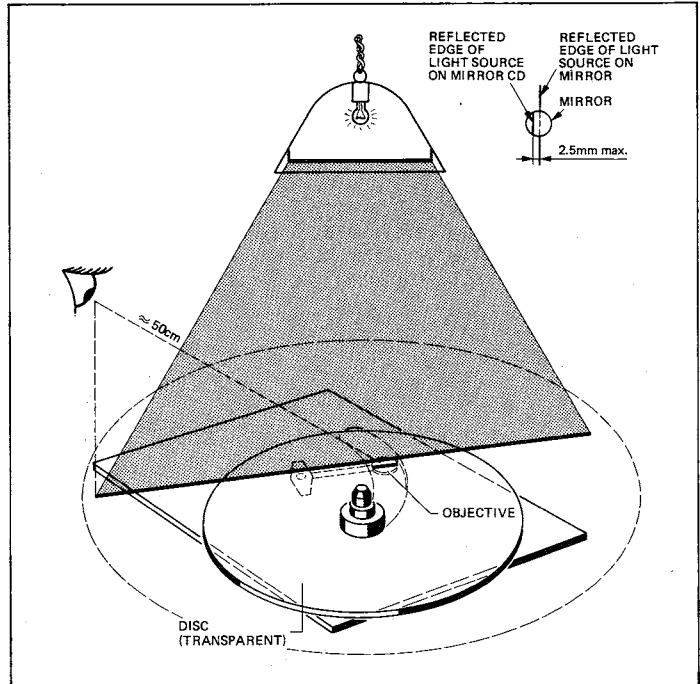
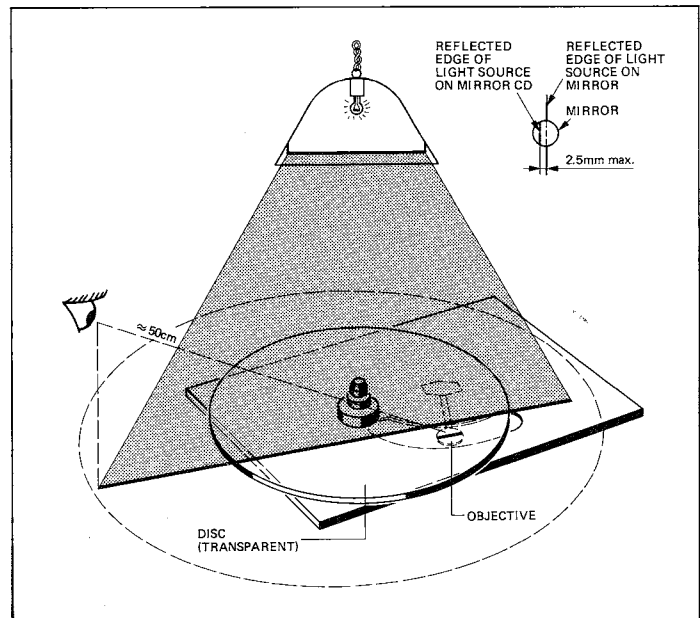

Fig. 4.11
Fig. 4.12
-> Fig. 4.11 / Fig. 4.12
- When observing the two shadow lines on the glass CD and on the mirror (Fig. 4.11), the lateral offset should not exceed 2.5 mm.
- Position the play mechanism in such a way that the shadow line runs perpendicular to the pickup arm but runs through the center of the mirror on the optical laser system (Fig. 4.12).